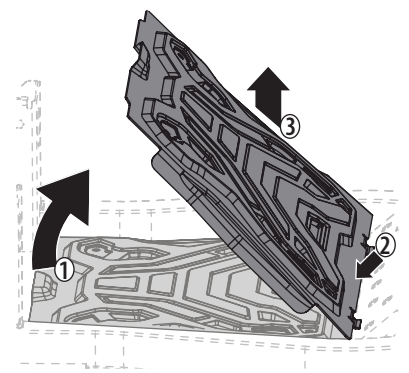

Figure 38
1. Carefully lift the rear of the floor panel. See 1 in Figure 38.
2. Slide the floor panel rearward to free the front of the floor panel. See 2 in Figure 38.
3. Lift it off the tractor. See 3 in Figure 38.